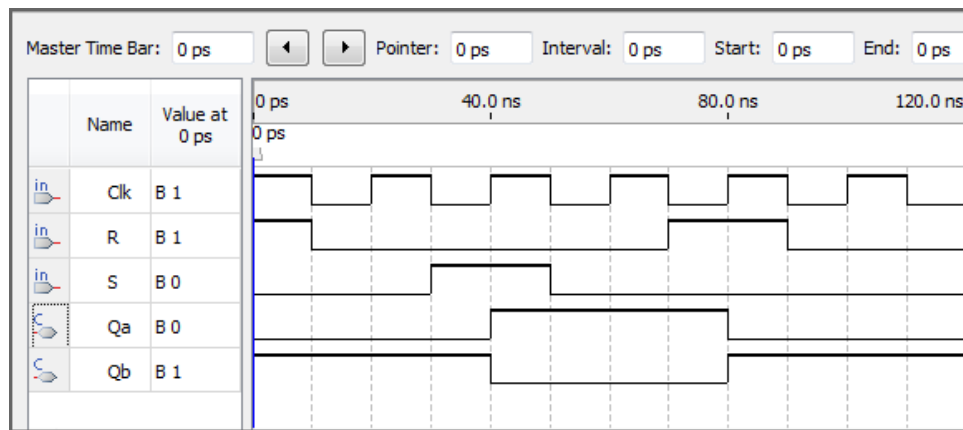

Figure 5: Simulation waveforms for the RS latch.
4. Simulate the behavior of your Verilog code by using the simulation feature provided in the Quartus software. First, create a vector waveform file (*.vwf) using the Quartus software to specify the inputs and outputs of your circuit. Then, use the commands available in the Quartus Simulation Waveform Editor tool to run a simulation of the circuit. The procedure for using the Simulation Waveform Editor to perform a simulation is described in the tutorial *Quartus Introduction*, available on the Intel FPGA University Program website (more detailed instructions are provided in the tutorial *Introduction to Quartus Simulation*). An example of a vector waveform file is displayed in Figure 5. The waveforms in the figure begin by setting $Clk = 1$ and $R = 1$, which allows the simulation tool to initialize all of the signals inside of the latch to known values. If the waveforms provided to the simulation tool do not allow for initialization of all signals in the circuit, then the simulation tool may exit with an error condition.